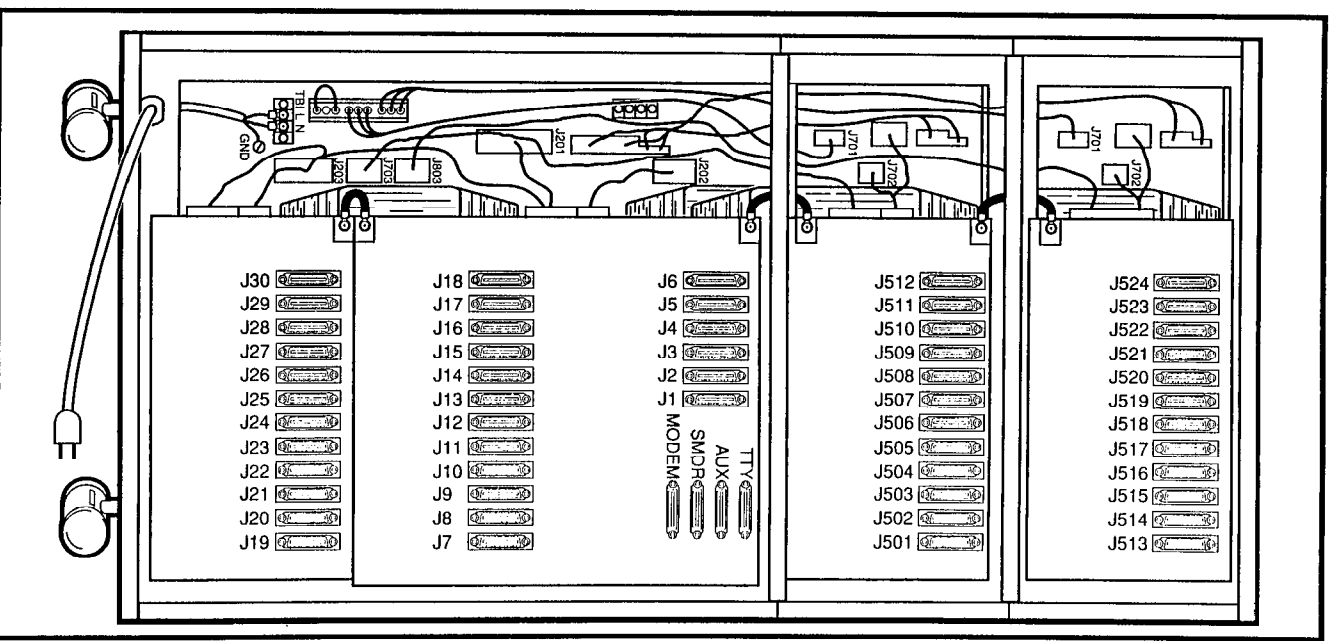

FIGURE 4-8—PERCEPTION^{ex}
- green lead (ground) to the **GND** screw on the main power supply (Figure 4-8). Replace the plastic cover and secure with two screws.
- 8) Connect the intercabinet ground wire in accordance with Figure 4-8.